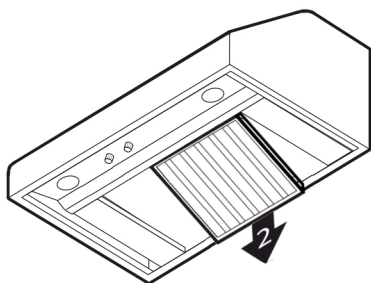

FIGURE 13: REMOVE THE STAINLESS STEEL BAFFLES – PART B
- b. Lower the rear edge of the baffle filter enough to clear the back edge of hood (FIGURE 13).